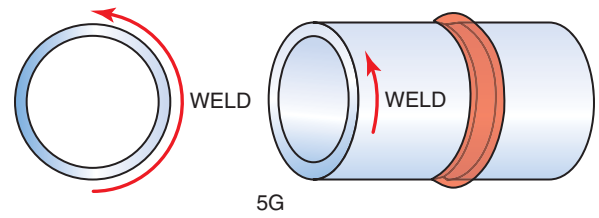

Figure 3.11 Pipe horizontal fixed position
- horizontal fixed 5G—The pipe is parallel to the horizon, and the weld is made vertically around the pipe, Figure 3.11.